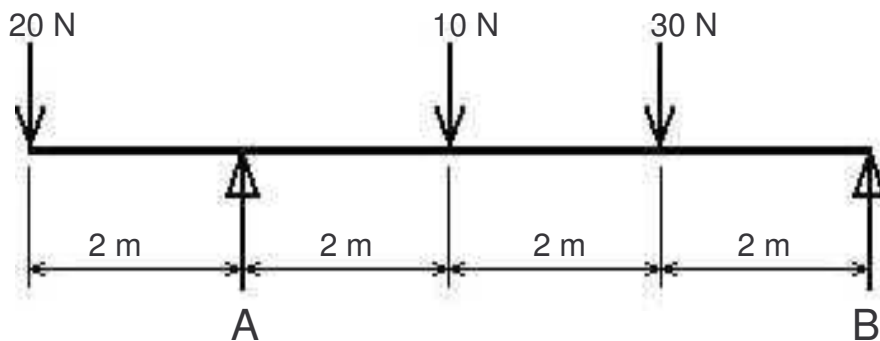

FIGURE 5.5
5.5 Figure 5.5 shows a loaded beam.